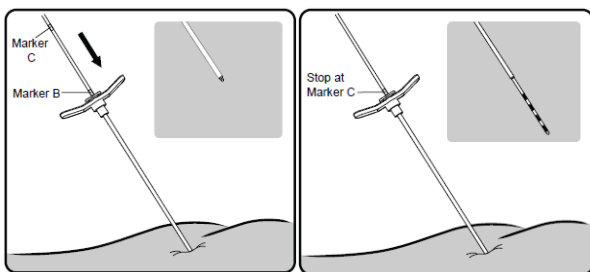

Figure 14. Advance the lead into the introducer sheath to expose the electrodes.
- Advance the lead further through the introducer sheath until visual marker C is aligned with the introducer sheath handle while holding the introducer sheath in place. Use fluoroscopy to confirm that the distal tip of the sheath is proximal to the electrodes (**Figure 14**).